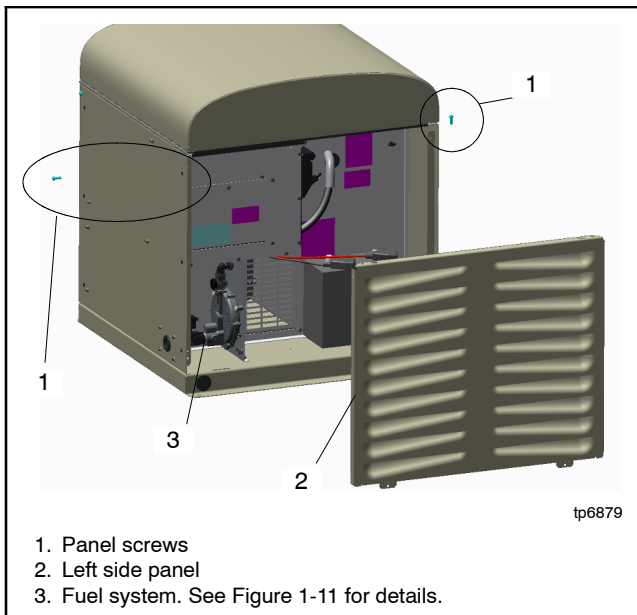

Figure 1-12 Remove Left Panel
5. Remove panel screws and remove the left side louvered panel. Figure 1-12.